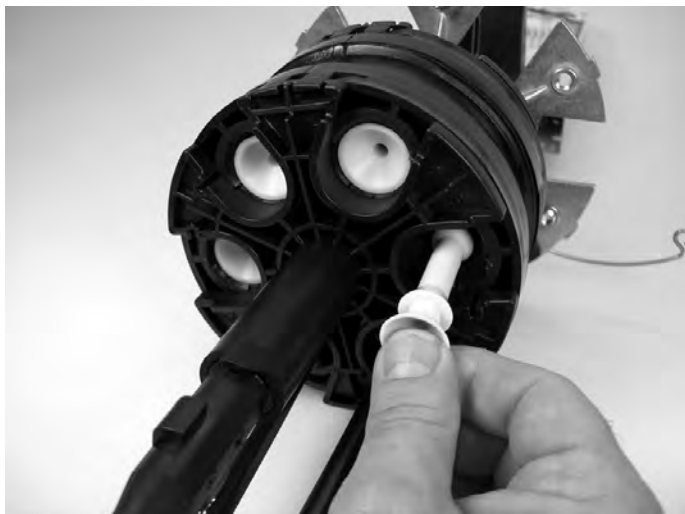

Fig 17
3. **Important:** Insert one port plug in each unused port (Fig. 17)